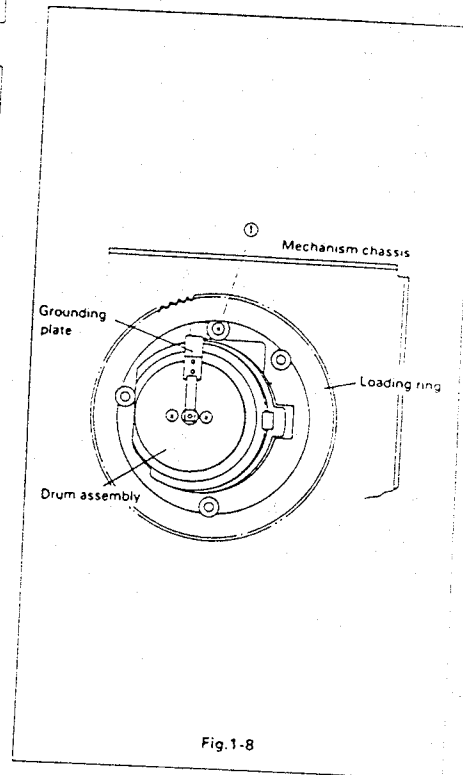

Fig. 1-8
- 1 After first placing the unit on its side, open the bottom of the unit and remove the ① screw, as shown in Fig. 1-8.
- 2 Use the ① screw to attach the grounding plate so that its contact area is aligned with the center of the drum assembly shaft.